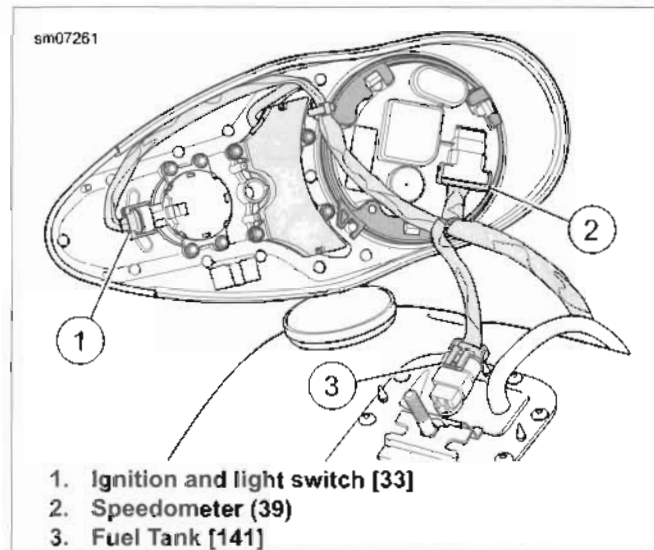
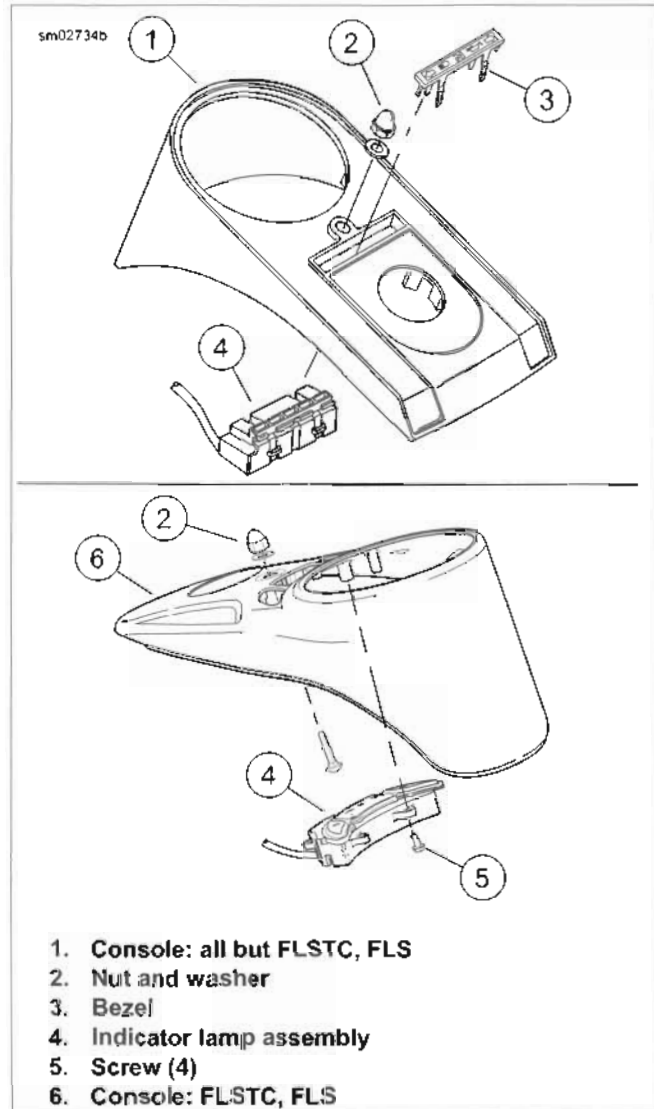

Figure 7-98. Instruments Harness Connectors
Figure 7-99. Indicator Lamp Assembly
3. See Figure 7-98. Remove connectors (1-3).
4. See Figure 7-99. Remove indicator lamp assembly.
- a. **All but FLSTC, FLS:** Squeeze clips of bezel (3) together and gently pry indicator lamp assembly (4) out of console.
- b. **FLSTC, FLS:** Remove screws (5) and gently pull indicator lamp assembly (4) out of console.
1. See Figure 7-99. Attach indicator lamp assembly to console.
- a. **All but FLSTC, FLS:** Make sure clips of bezel (3) engage to secure assembly in place.
- b. **FLSTC, FLS:** Install screws (5).
2. See Figure 7-98. Install connectors (1-3).